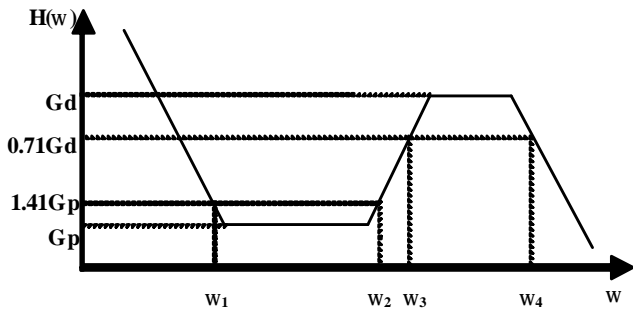

Figure 4 Transfer Function of the Compensation Network
The transfer function of the compensation network, defined as $H(\omega)=VDR(\omega)/TMPO(\omega)$, is shown in figure 4.
- d. $C_d * R_i$ determines the corner frequency, $\omega_2 = 1/(C_d * R_i)$, where the differential component starts picking up (see Figure 4), as the frequency goes up.